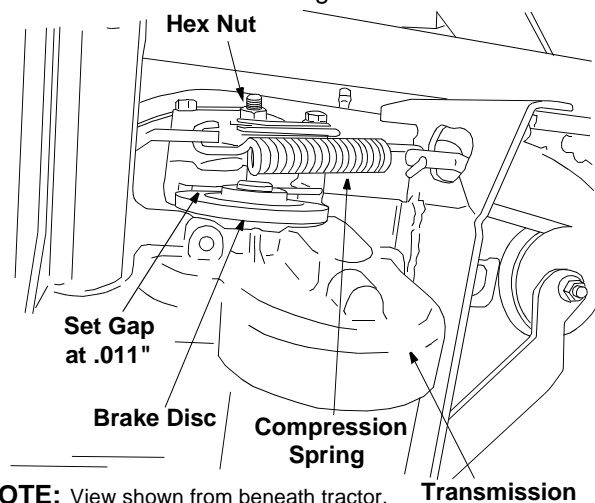

Figure 12
- Looking at the transmission from the right side of the tractor, locate the compression spring and brake disc. See Figure 12.
- Loosen, but do NOT remove, the hex nut found on the right side of the brake assembly. See Figure 12.